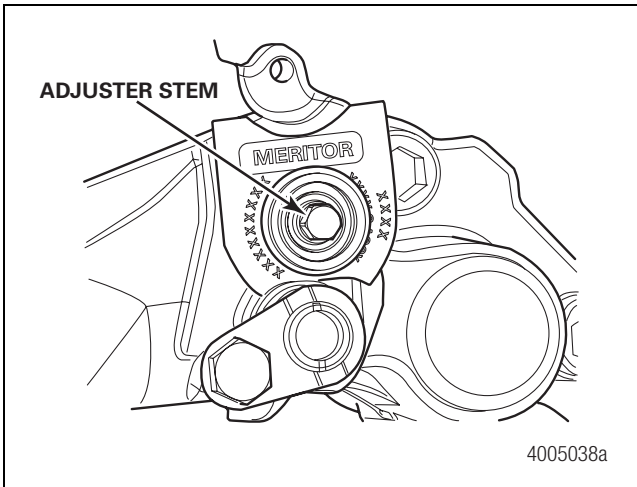
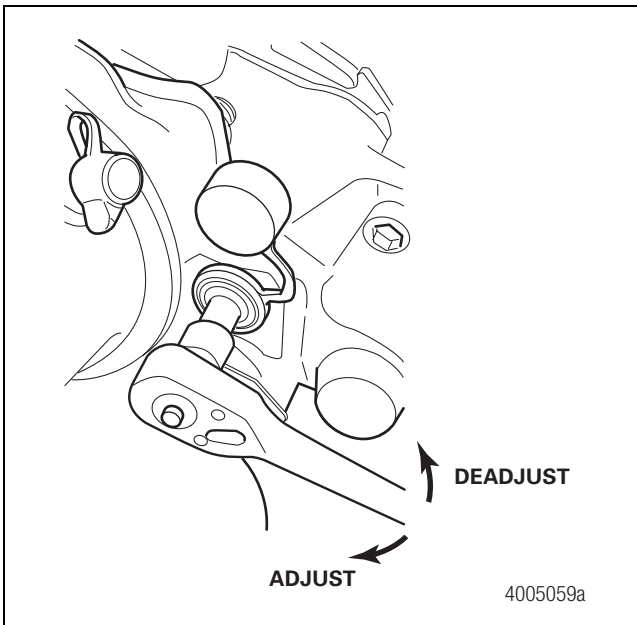

Figure 4.2
Figure 4.3
2. Use a 10 mm wrench to deadadjust the brake. Rotate the adjuster stem COUNTERCLOCKWISE until you feel the adjuster stem stop. Deadadjustment requires more force than adjustment. Do not exceed 30 lb-ft (40 N•m) in either direction. Figure 4.2 and Figure 4.3. **ⓘ**